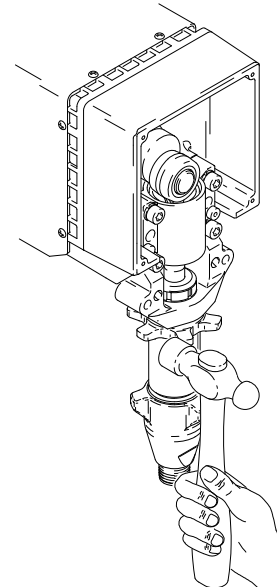

Fig. 23
5. Fig. 23. Loosen locknut by hitting firmly with a 20 oz (maximum) hammer. Unscrew pump.